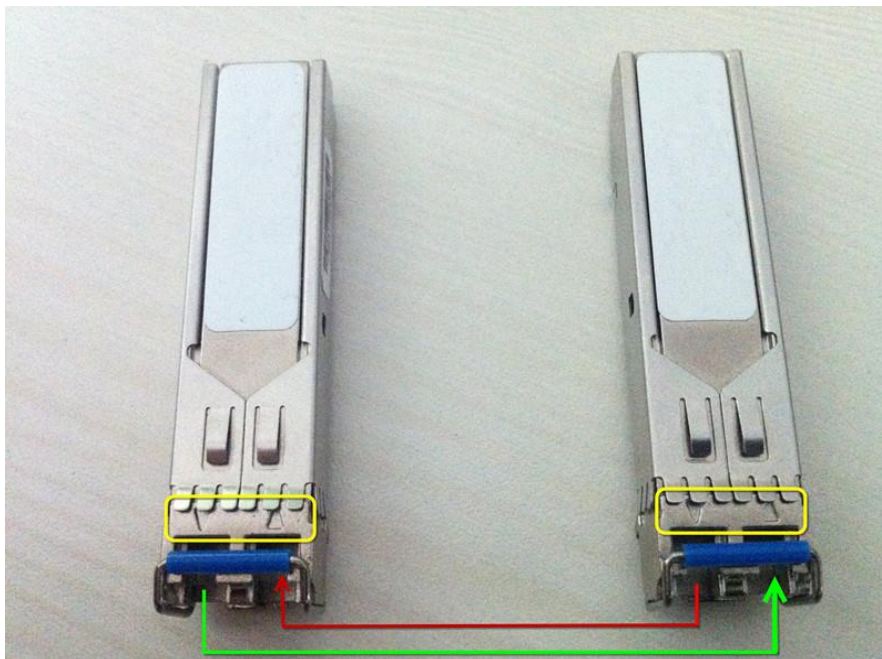
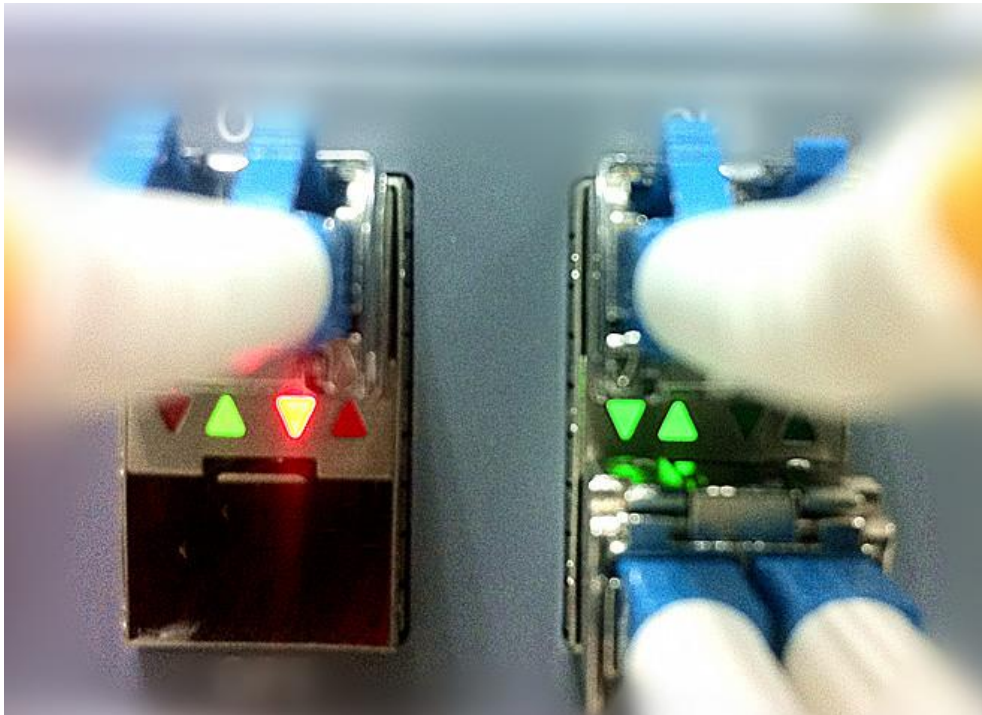

**Figure 6-13 Single Optical Fibre Module**
Figure 6-15 Optical SYNC Status
Figure 6-13 shows that when using a pair of single optical fibre-modules, the wavelength of the two modules should be different, for example, 1271nm & 1331nm. See Table 51 for the optical fibre module corresponding to each port. When the optical module is unplugged or not synchronized, the indicators are red as shown in the left pair of indicators in Figure 6-15. Check whether both indicators turn green after connecting one pair of optical modules. If they are red, the terminal has not synchronized. See Section 9 for how to resolve this issue.
Each pair (2) of optical module cages has four LED indicator arrows. The two on the left are green and the two on the right are red as shown in Figure 6-15. The indicator arrows represent the synchronization status of the upper and lower optical modules. When optical module A has synchronized with module B (both uplink and downlink), the indicators turn green as shown in the right pair of indicators in Figure 6-15. When the optical module is unplugged or not synchronized, the indicators are red as shown in the left pair of indicators in Figure 6-15. Check whether both indicators turn green after connecting one pair of optical modules. If they are red, the terminal has not synchronized.